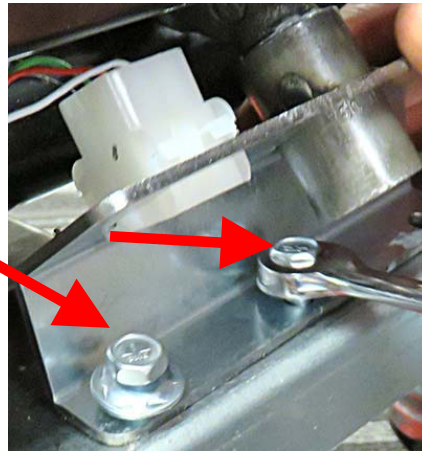

Figure 39
43. Attach the dispose outlet assembly using 1/4"-20 self tapping bolts (see Figure 39).